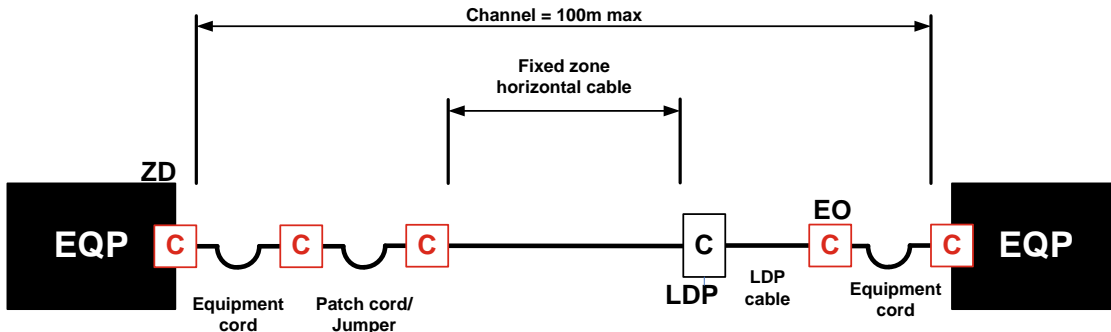

Figure 32: Cross connect-LDP-EO model
2) Class E_A with Unscreened Cat. 6_A installation (UTP) at 35°C ambient temperature (Figure 32)